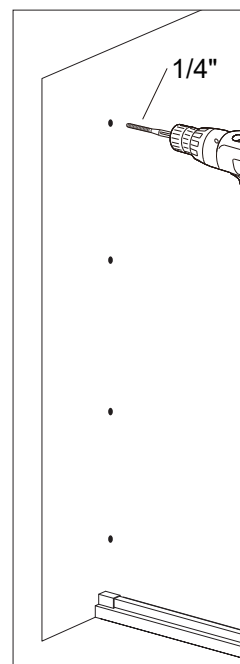

Fig 2.2
3. Remove **Wall Profile [01]** and drill 1/4" screw holes on the wall. (Fig 2.2)